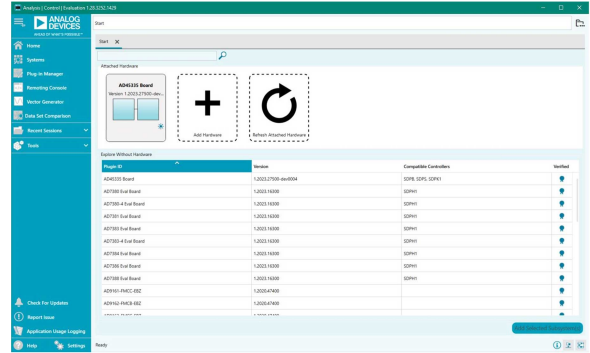

Figure 3. ACE Start Window
4. When ACE is in operation, ACE is able to detect the EVAL-AD45335SDZ (**AD45335 Board**) as connected hardware as shown in Figure 3.